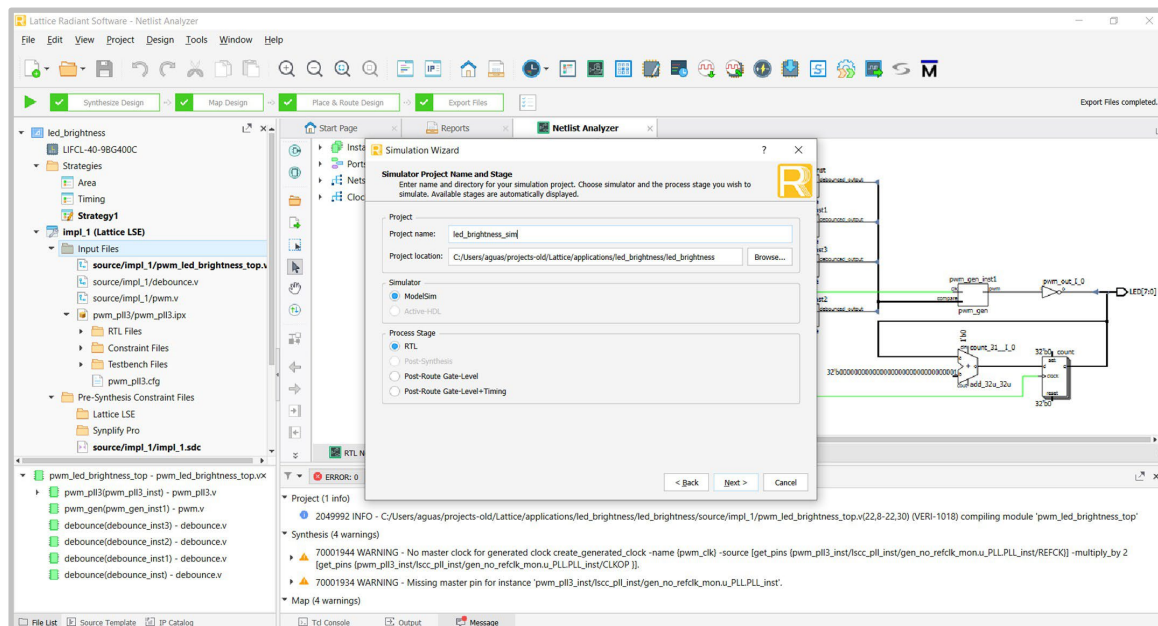

Figure 16: Naming the Simulation
15. Name the project **led_brightness_sim** and click **Next**, see **Figure 16**.